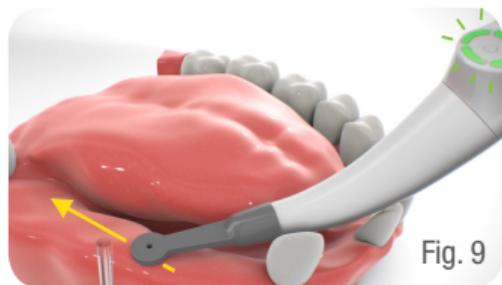

Fig. 9
6.5.2. Insert the device into the mouth cavity and place the sensor plane onto the gum at some distance from the estimated position of the implant. The central hole of the sensor should be approximately in the middle of the jaw ridge. Slowly move the sensor along the jaw towards estimated position of submerged implants (Fig. 9).